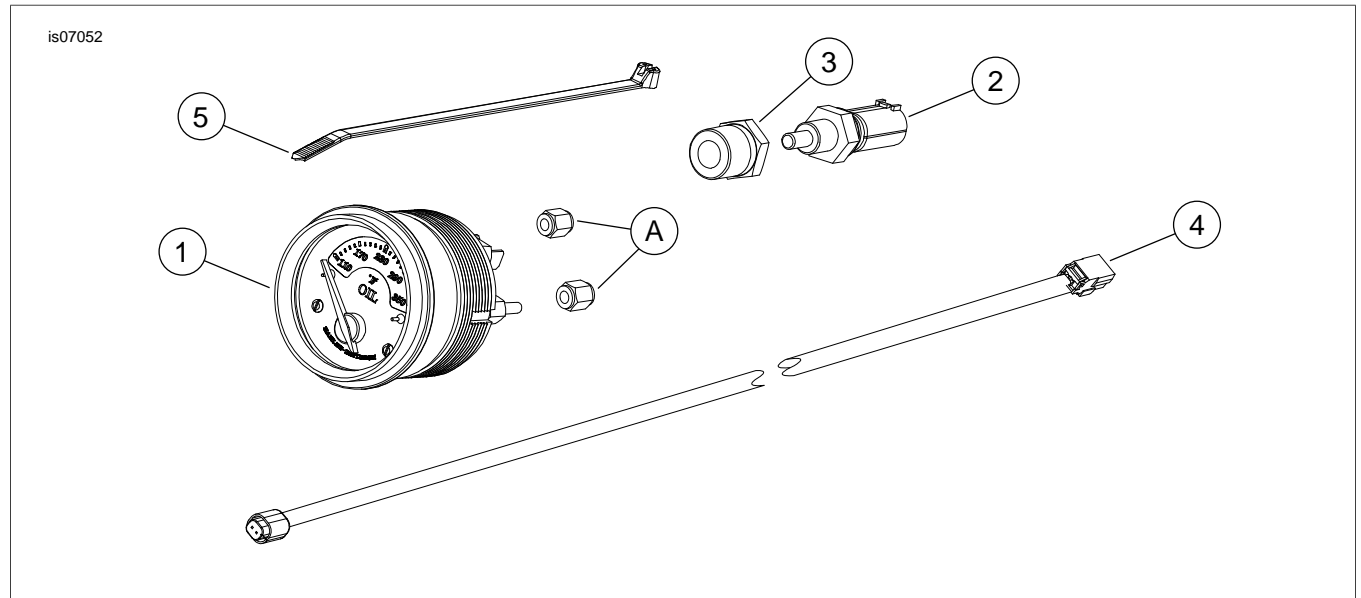

Figure 2. Service Parts: Titanium Oil Temp Gauge
See Figure 2 and Table 1.
1. See Figure 2. Obtain the oil temperature gauge (1) from the kit. From the rider position, rotate the gauge to align the face legend horizontal to the rider, and push the gauge into the fairing.
2. From the front of the vehicle, slide the gauge mounting bracket (B) over the threaded gauge studs to engage the tabs of the bracket into the inner fairing.
3. Install two locknuts (A) and tighten to 10-20 **in-lbs** (1.1-2.3 Nm).
2. See Figure 2. Obtain the oil temperature sending unit (2) and adapter fitting (3) from the kit. Coat the clean threads of the adapter fitting with Loctite 565 Thread Sealant, and install the fitting into the pipe plug hole in the oil pan.